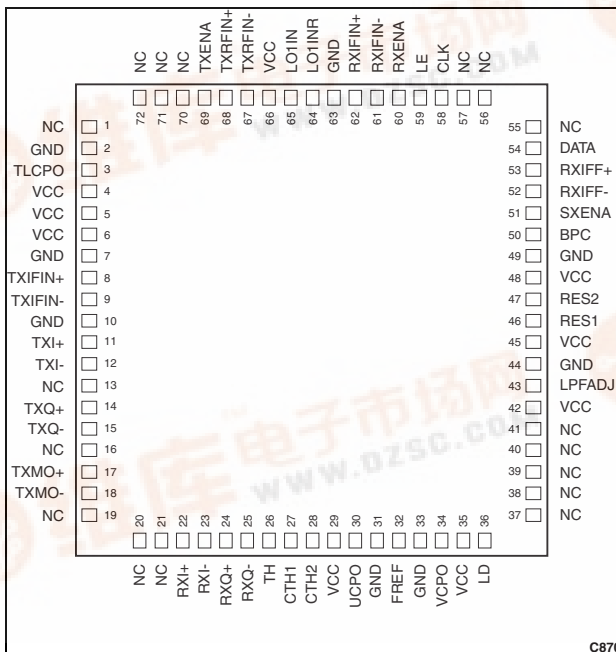
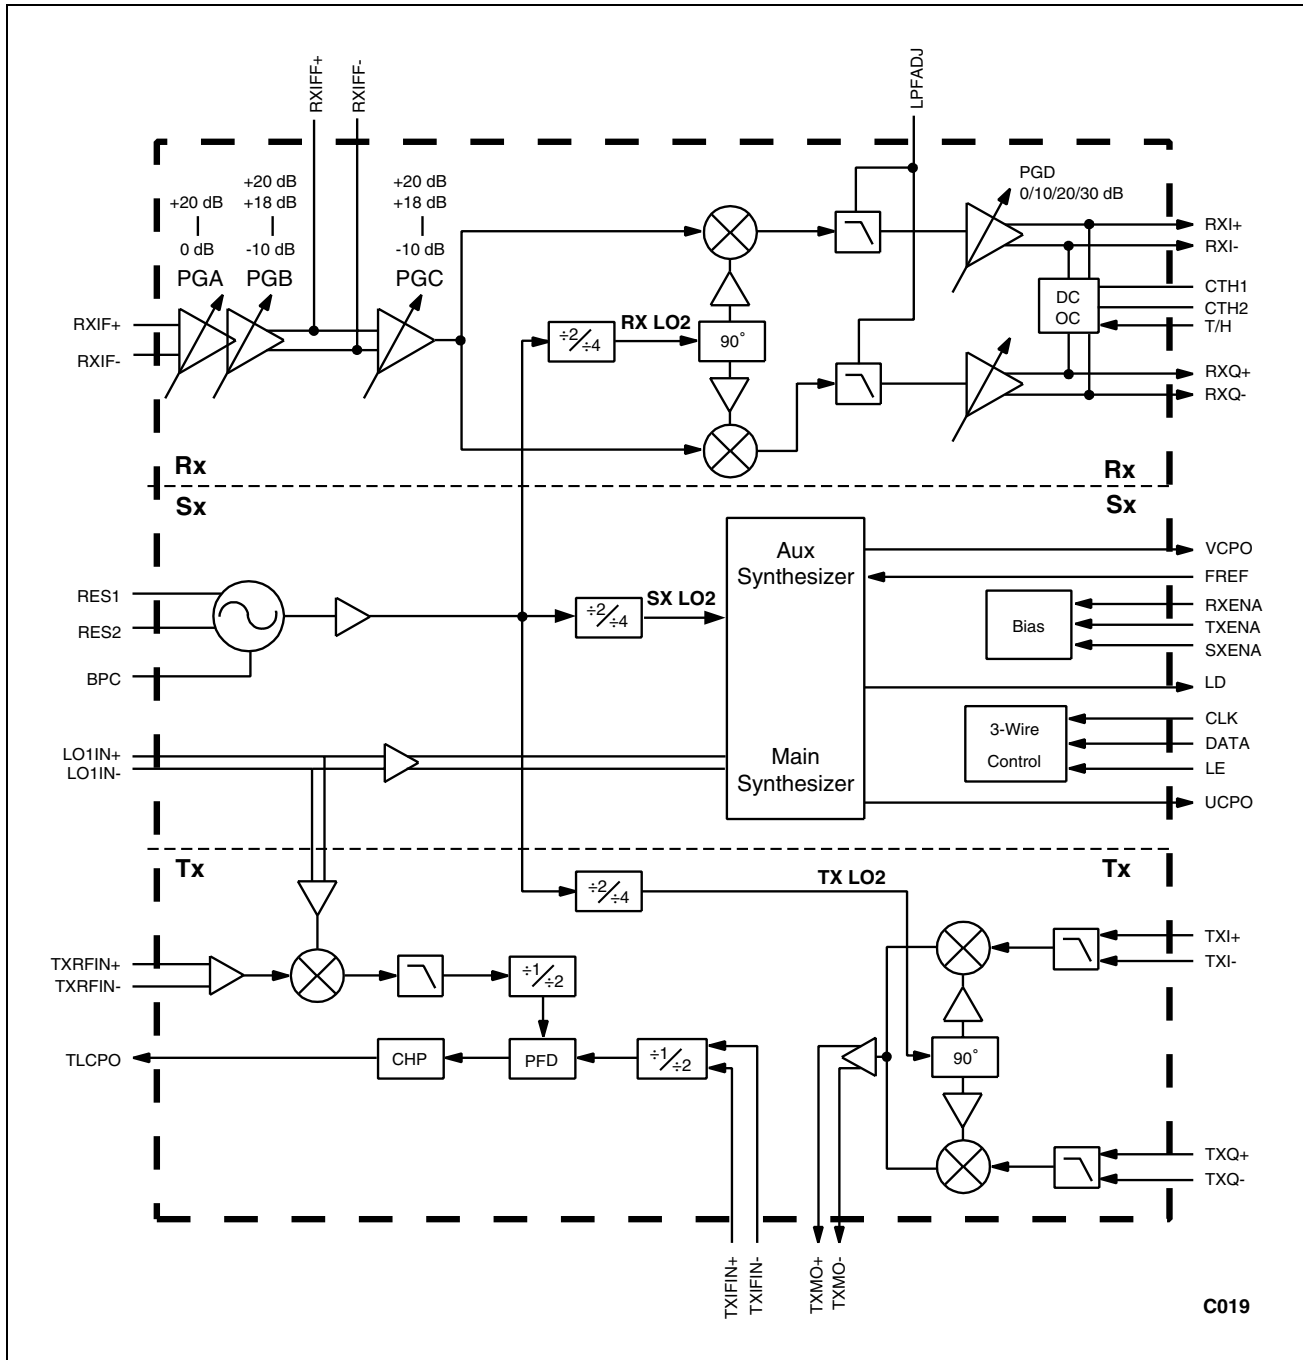

Figure 1. CX74016 Pin Configuration – 72-Pin LGA
Figure 2. CX74016 Block Diagram
The device package and pin configuration are shown in Figure 1. A block diagram of the CX74016 is shown in Figure 2. The signal pin assignments and functional pin descriptions are found in Table 1.
The CX74016 RF/IF transceiver is comprised of a receive path, a transmit path, and a synthesizer section as shown in Figure 2. The receive path consists of a selectable gain IF chain, a quadrature demodulator, and baseband amplifier circuitry with I and Q outputs. The transmit path is essentially an I/Q modulator with a translation loop for frequency up-conversion. An on-chip oscillator and a dual-loop UHF/VHF frequency synthesizer circuit make up the synthesizer section. Each section of the CX74016 is separately enabled via the enable signals TXENA, RXENA, and SXENA.
**I/Q Modulator With IF Output Amplifier.** The inputs to the I/Q modulator are differential I and Q baseband signals which are low-pass filtered and then applied to a pair of double-balanced mixers (see Figure 2). The outputs of the mixers are combined to produce a modulated signal which is then filtered externally and input through pins 8 and 9 (TXIFIN+ and TXIFIN-) to the reference divider in the translation loop.